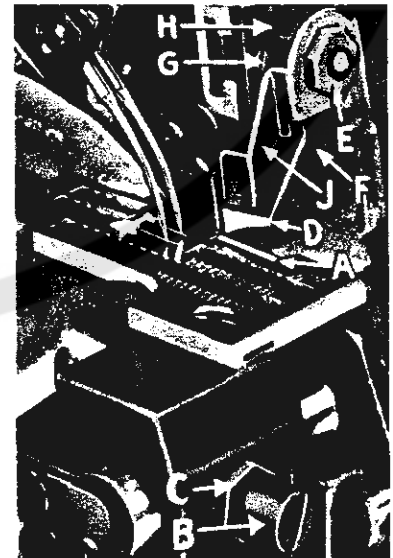

Fig. 13
Replace lower knife holder assembly. Lower knife (A, Fig. 13) should be set with cutting edge flush with throat plate surface. Adjustments are made with hexagonal head screw which holds lower knife. Lower knife is spring pressed against upper knife, so no lateral adjustment is necessary when width of trim is changed.
Replace upper knife assembly. Clamp upper knife (D, Fig. 13) in position, setting nut (E) to hold clamp (F) in its most clockwise position against upper knife. Upper knife chain guard (J) should be positioned so that the guarding section is approximately 1/64 inch behind the cutting edge and in contact with the top surface of the upper knife.